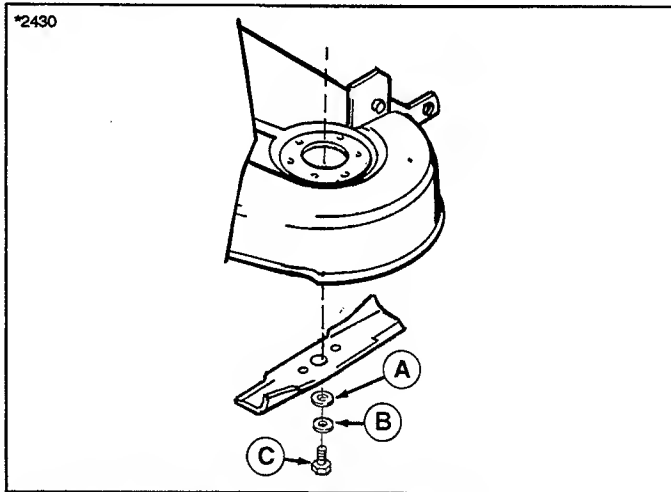

Figure 18. Blade Hardware - 34" Deck Shown
1. See figure 18. Install the blade(s) with the tabs pointing upward. Install the spline washer (A), cup washer (B), and capscrew (C). Be sure the splines on the spline washer are engaged with the shaft splines. Be sure cup washer is installed with the concave side up.